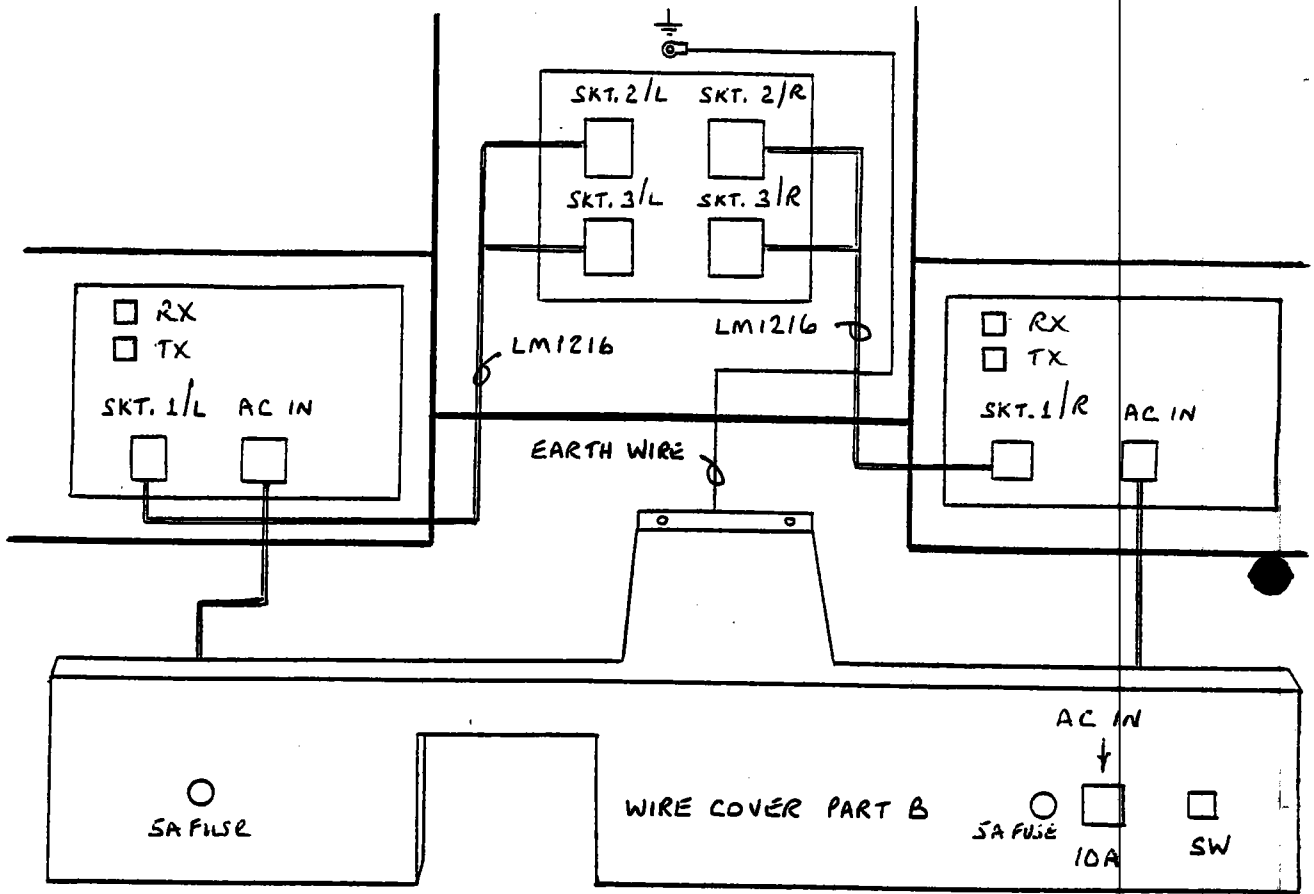

Fig. 7 Wire Cover Electrical Connections
- Step 12. Connect the paired end of the wiring harness interconnect LM1216 to the 2 RIGHT-HAND sockets (SKT. C2/R & SKT. C3/R) at the back of the Coin Chute Tower. Connect its other end to SKT. 1/R on the RIGHT-HAND Main Base. See Fig 7
- Step 13. Connect the other wiring harness interconnect LM1216 to the LEFT-HAND sockets on the Coin Chute Tower and Main Base in a similar way to Step 12. See Fig. 7